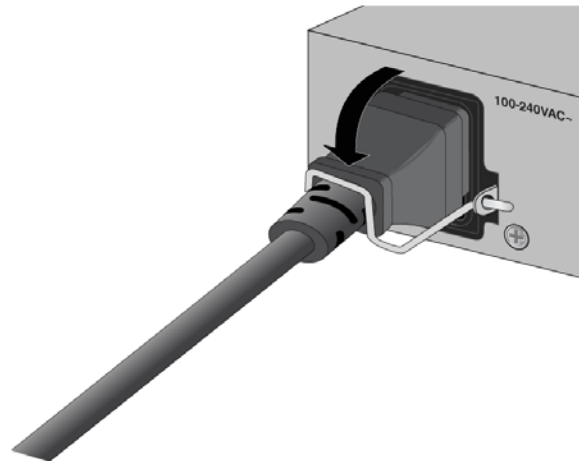

Figure 41. Lowering the Power Cord Retaining Clip
3. Lower the power cord retaining clip to secure the cord to the switch. Refer to Figure 41.